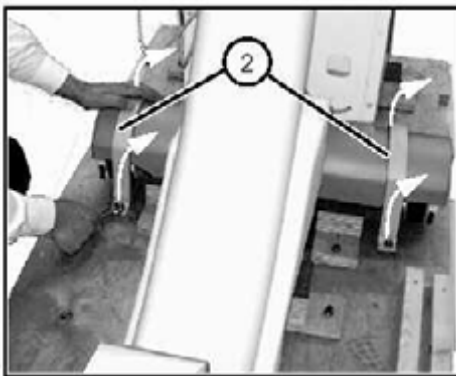

Fig. 5: Retaining clamp_2
- Unscrew the retaining clamp (2/Fig. 5 / p. 6) on the left and right (two nuts on each side)